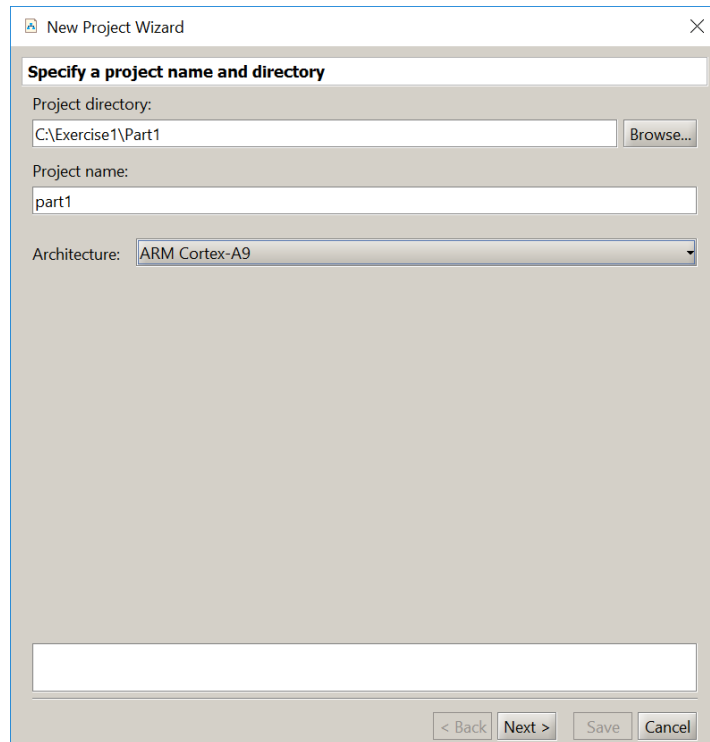
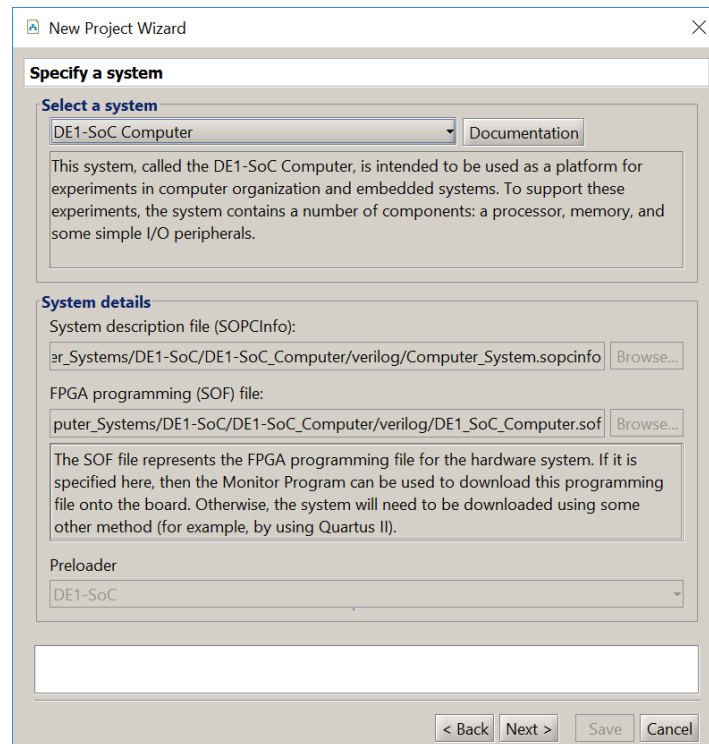

Figure 2: Specify the folder and the name of the project.
Figure 3: Specification of the system.
To develop ARM software code using the Monitor Program it is necessary to create a new project. Select **File > New Project** to reach the window in Figure 2. Give the project a name and indicate the folder for the project; we have chosen the project name *part1* in the folder *Exercise1\Part1*, as indicated in the figure. Use the drop-down menu shown in Figure 2 to set the target architecture to the ARM Cortex-A9 processor. Click **Next**, to get the window in Figure 3.
3. Now, you can select your own custom computer system (if you have one) or a pre-designed (by Intel) system. As shown in Figure 3 select the *DE1-SoC Computer*. Once you have selected the computer system the display in the window will now show where files that implement the chosen system are located. Click **Next**.